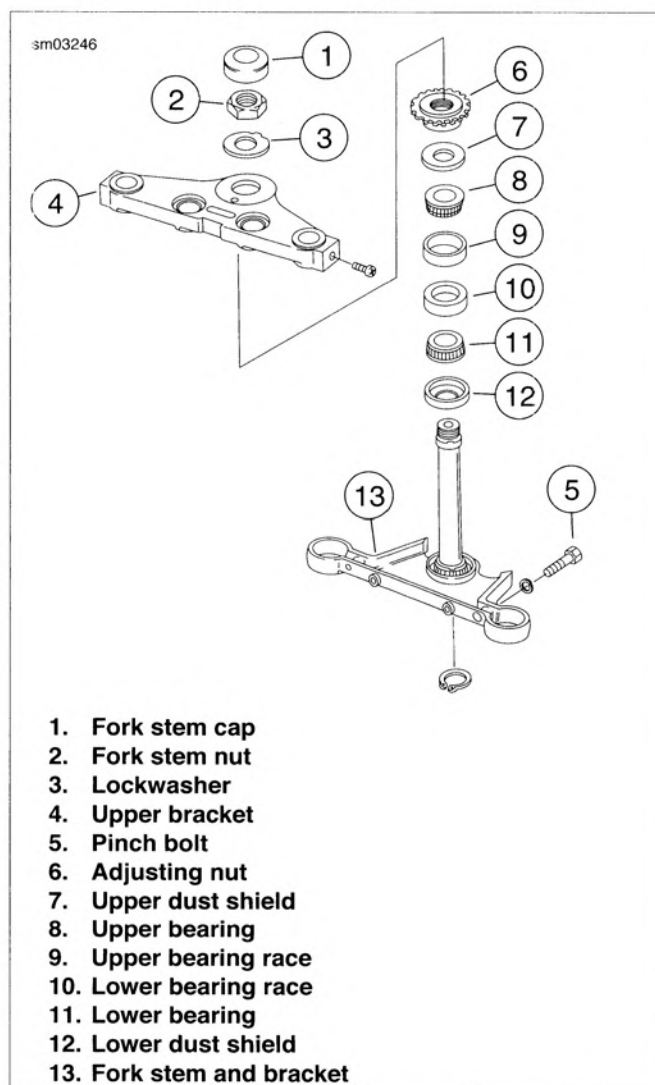

Figure 2-79. Steering Head: FXST/FXSTC
3. See Figure 2-79. Remove the brake hose bracket from the bottom of the fork stem and bracket (13).
4. Remove the fork stem cap (1). Remove the fork stem nut (2) with the handlebar and upper bracket (4) as an assembly.
5. Remove the adjusting nut (6) and pull the fork stem and bracket (13) out of the steering head.
6. Remove the upper dust shield (7) and upper bearing (8) from steering head.